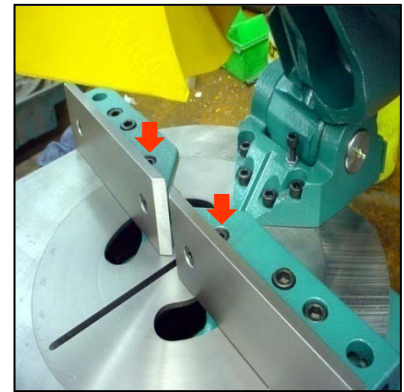

Figure 10. Angular Adjustment Bolts
- iii) To adjust the angle of the cutting surface, if necessary, loosen the 4 bolts, as shown in *Figure 10*. Fine-tune the angle required, then replace and re-tighten the 4 bolts.